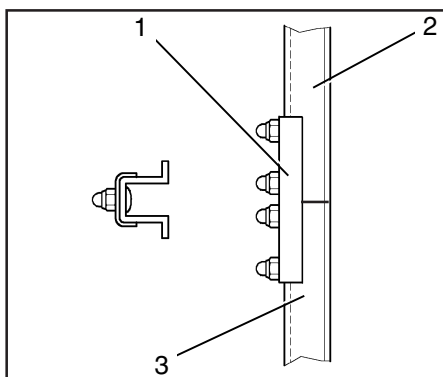

Fig. 11 Connection of two arrester rails
5. Join both arrester rails (11/2 and 3) with the connector (11/1). To do this, install the connector on the arrester rail from behind as shown in Fig. 11.
6. Join both arrester rails (11/2 and 3) with a connector (11/1). To do this, install the connector on the arrester rail from behind as shown in Fig. 11.
6. Join both arrester rails of the single stile ladders (11/2 and 3) with a connector (11/1). To do this, install the connector on the arrester rail from behind as shown in Fig. 11.